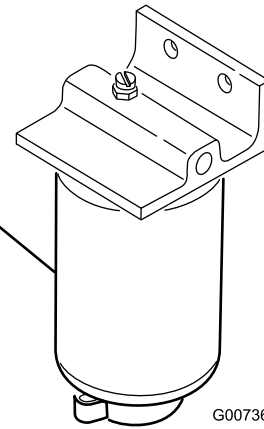

Figure 36
3. Open the drain plug on the fuel filter approximately one turn and drain any accumulated water (Figure 36).